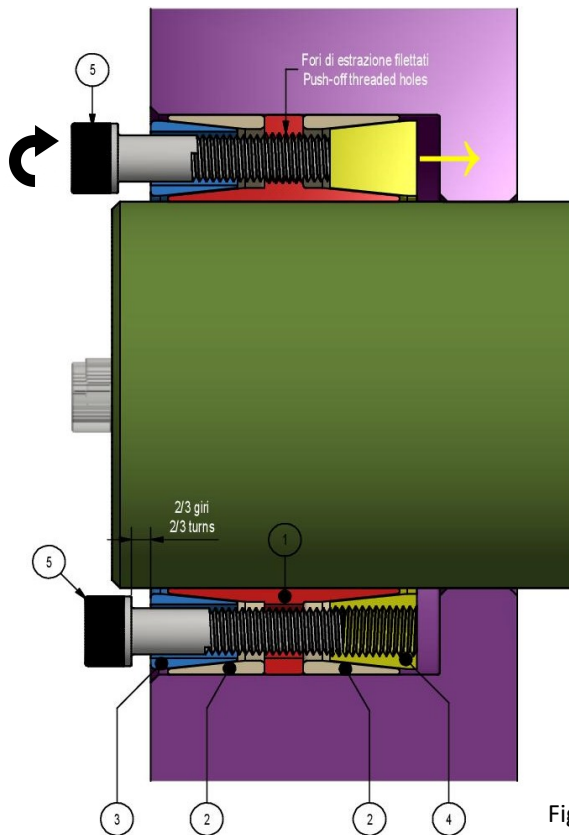

Fig. 4. Release of rear thrust ring.
2. Loosen all screws by two/three turns; then transfer some screws into all push-off threaded holes in the inner ring, accessible via corresponding clearance holes in the front thrust ring. **Progressively tighten these screws in a crosswise pattern, using approx. ¼ turns for several passes** until rear thrust ring is released (fig. 4).